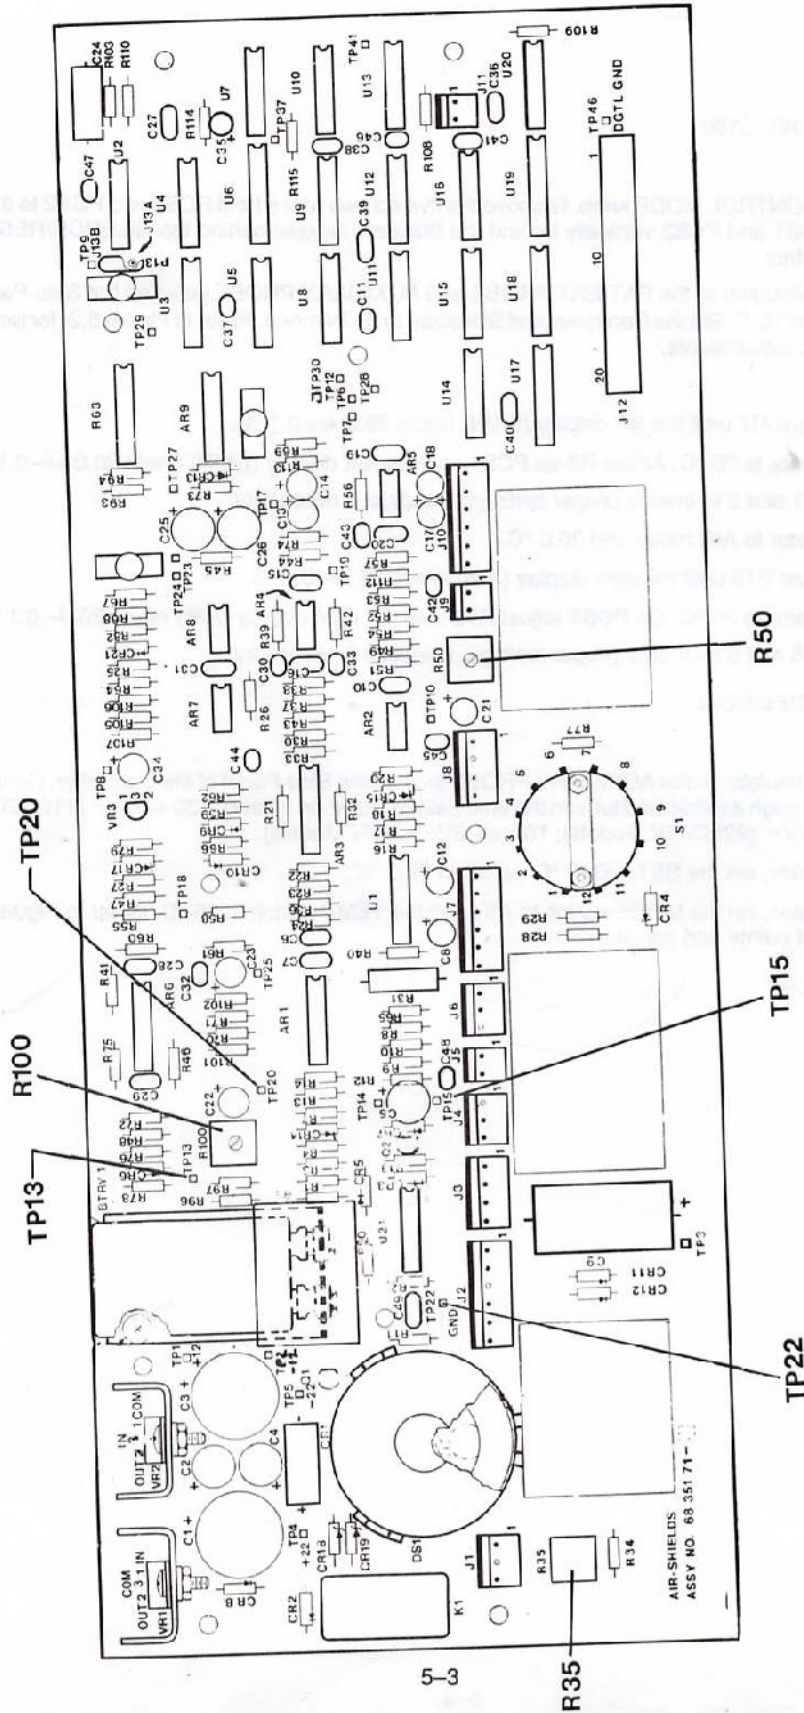

FIGURE 5.1 PCB2 (MODEL C100), LOCATION OF TEST POINTS AND ADJUSTMENTS
3. On the Simulator, set the MODE switch to AIR and the TEMP switch to 36 °C. Refer to Figure 5.1 for location of test points and adjustments.
1. Refer to Figure 5.1 and connect the DVM between TP20 (+) and TP22 on PCB2.